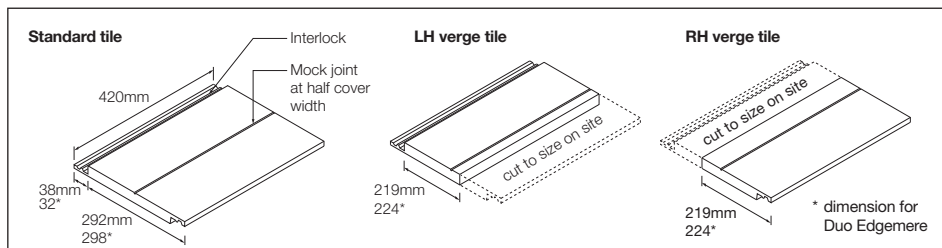

Fig. 7 – Cutting dimensions for LH and RH verge (Duo Modern and Duo Edgemere)
- 1 Ensure that the eaves course right hand or left hand verge starts with either a three-quarter width, half width or standard tile as indicated in Figs. 7 and 8.
- 2 Continue subsequent courses of slates laid in a quarter bond, ensuring that left and right verge tiles are cut as either half tiles, three quarter tiles or standard tiles (see Fig. 7).